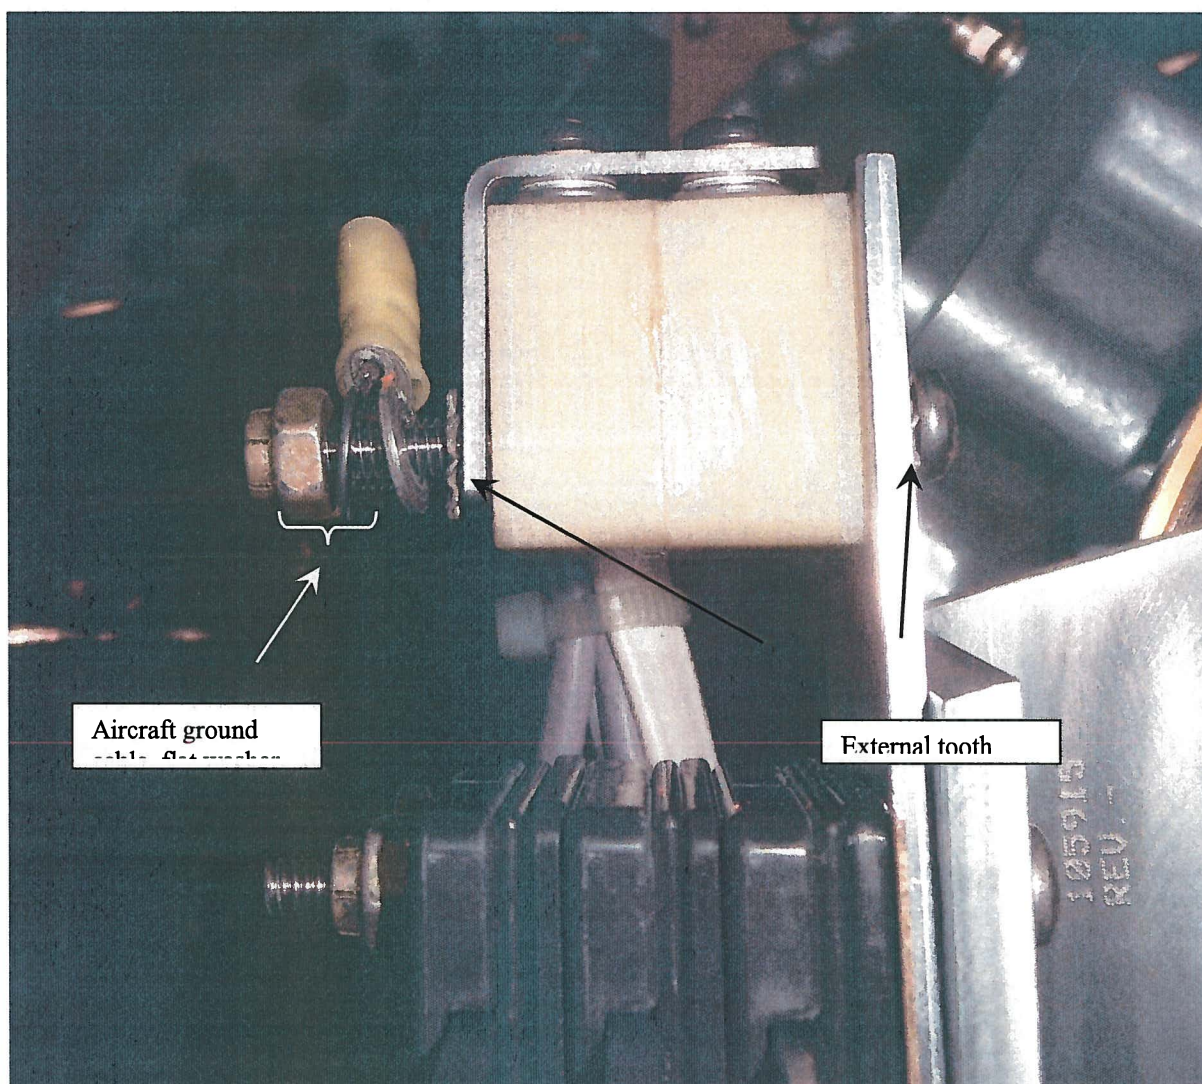

Figure 7
- 3) On the front MOV mounting screw, as shown in Figure 7, install a B-3855-31 external tooth lock washer, followed by the aircraft grounding cable, then a B-3837-N832 flat washer and B-6655-08 nut.